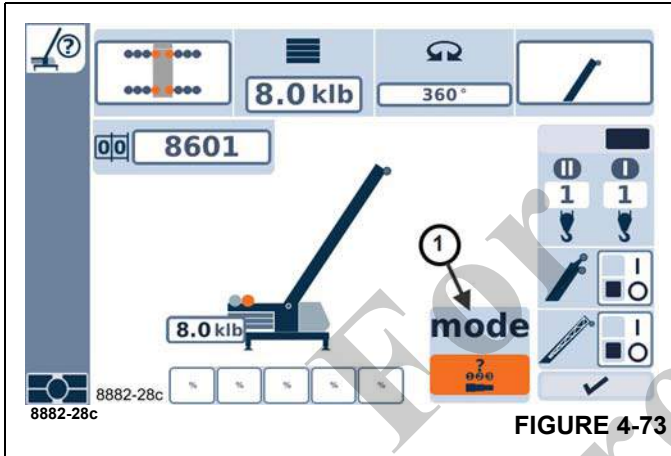

FIGURE 4-73
After the RCL has been initialized, and the rigging mode screen is re-entered, and the telescoping function has been enabled, and the boom is fully retracted and locked, then a Telescoping Mode Number may be selected (1), (Figure 4-73). Entering this option allows the up/down or jog dial to be used to select from an available list of these mode numbers. After this selection and using the check-mark again on the rigging screen, the telescoping function will commence for the requested telescoping status based on the mode number.